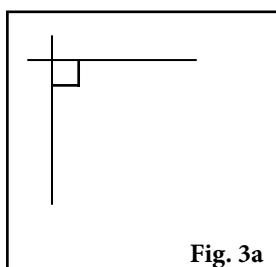
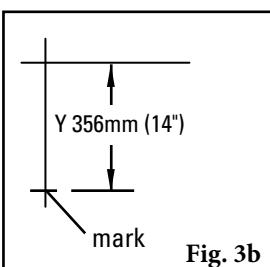
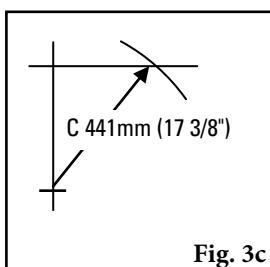
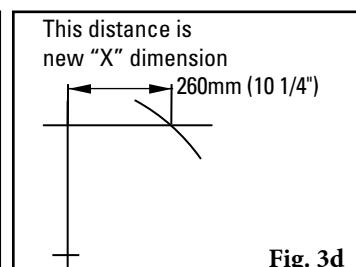

Fig. 3a
Fig. 3b
Fig. 3c
Fig. 3d
3. **Determine final dimension.** On a flat vertical surface, using a level, draw one horizontal line and one vertical line creating a right triangle (Fig 3a). Measure down from the intersection the determined "Y" dimension and mark (Fig 3b). With the tape measure starting at the modified "Y" mark, swing the tape across the "X" line and mark at the "C" dimension where it crosses the "X" line (Fig 3c). Measure from the intersection to the "C" intersection and this will be your new "X" dimension (Fig. 3d).